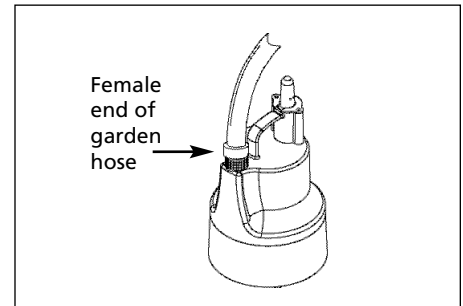

Figure 2
1. This pump has been designed to attach to a standard garden hose. Thread the female end of the garden hose to the male discharge on the pump (see Figure 2).